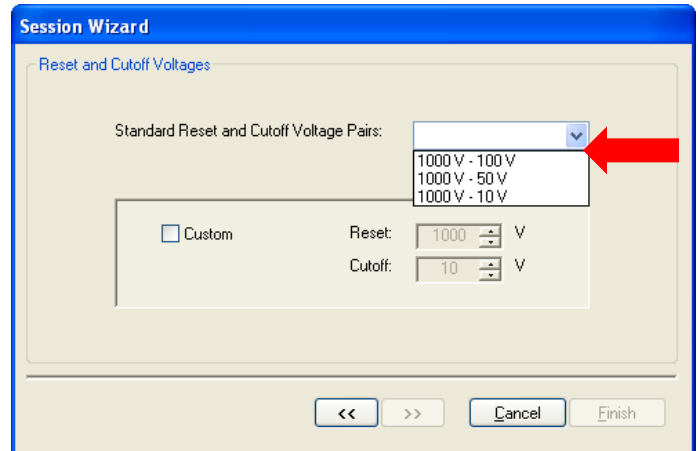

Figure 39: Highlight the Standard Reset and Cutoff Test Voltage that meet test criteria
- a. Standard **Reset** and **Cutoff Voltages** are (See Figure 39):